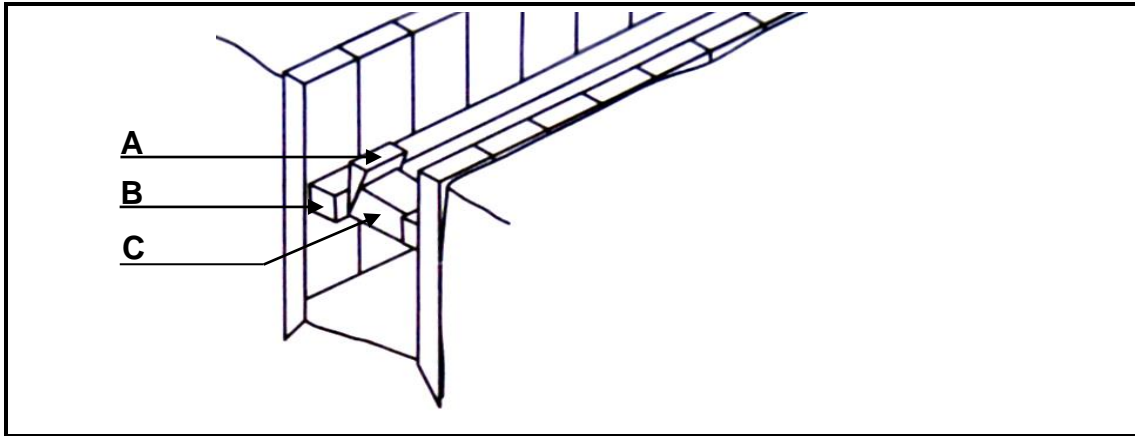

FIGURE 3.8
- 3.8 FIGURE 3.8 shows the shoring for a trench. Answer the following questions with regard to the shoring.